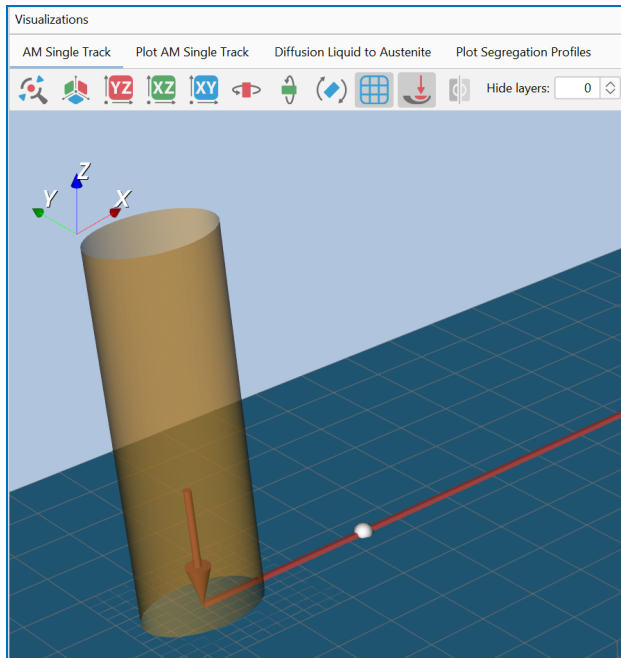

Figure 81: Close up of the probe point added to the geometry for the single track AM simulation.
- **Probes:** Probes are added to the AM Calculator during the set up either by entering coordinates or directly adding these to the geometry. See Figure 81 and Figure 82 for example.